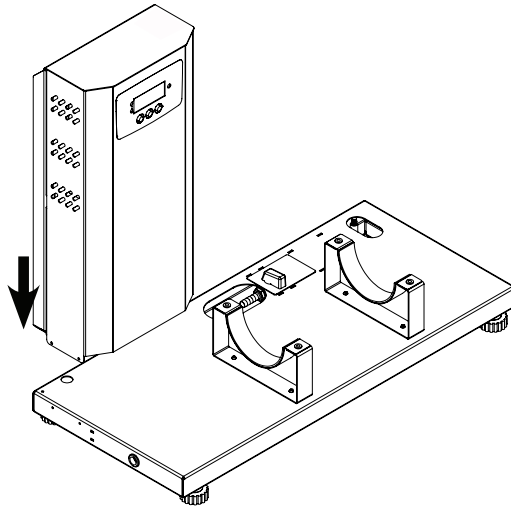

Fig 15.1 Control Panel
2. Place the control panel as shown in (fig.15.1)